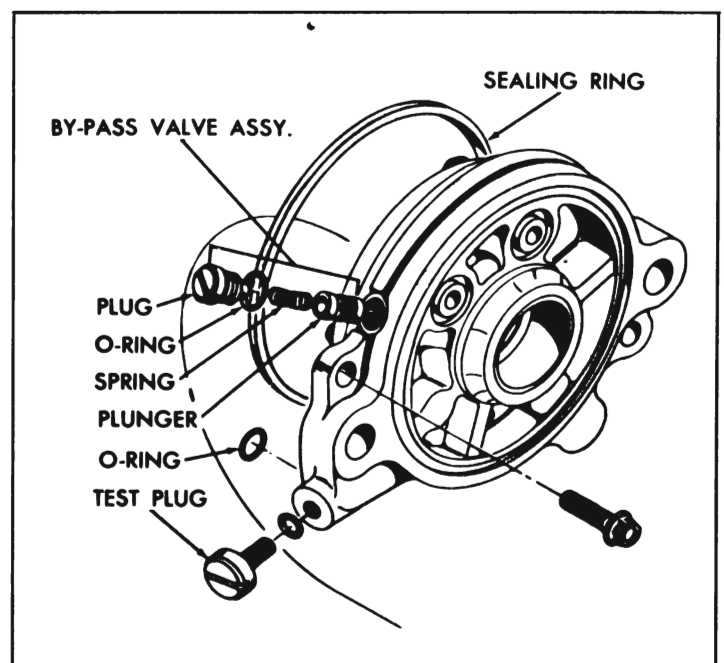

Figure 7-66—Installing By-Pass Valve and Test Plug
The oil pump pressure may be checked accurately by removing the test plug (figure 7-66), connecting a suitable pressure gauge, and running the engine at idle.
- (f) Remove by-pass valve plug, spring and plunger. Remove test plug. See figure 7-66.
- (b) Replace test plug with a new O-ring. Replace by-pass valve plunger, spring and plug using a new O-ring. See figure 7-66.